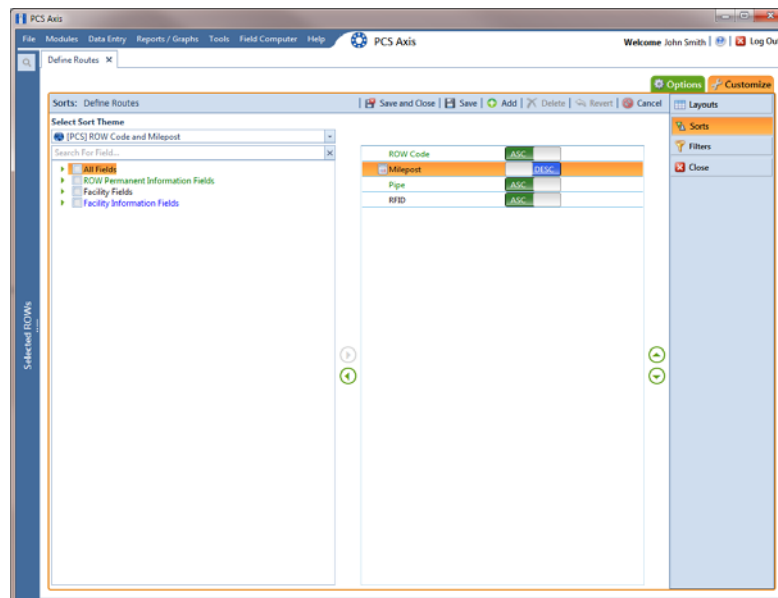

Figure 8-45. Sorts
- 3 Click the **Customize** tab , then the **Sorts** button  to open the *Sorts* page (Figure 8-45, page 398).